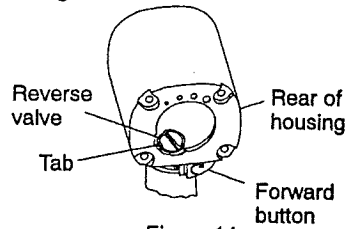

Figure 14
4. Install the Trigger O-ring (34) on the Trigger. Insert the Trigger Assembly in the front of the Housing.
6. Look through the Housing from the rear. If the tab on the Reverse Valve has been rotated to the left, install the right Button in the Housing. When one Button has been installed, push the Button in. This will rotate the Reverse Valve so that the other Button can be installed. See Figure 14.